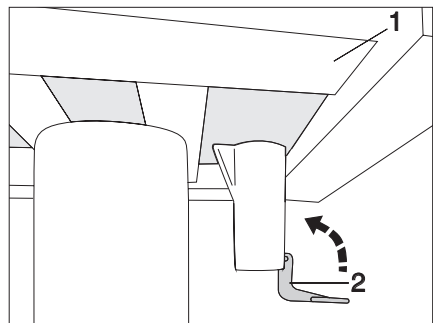

Fig. 57 Lock single-column table (unlocked)
- ▶ Press the locking lever (Fig. 57,2) back upwards.